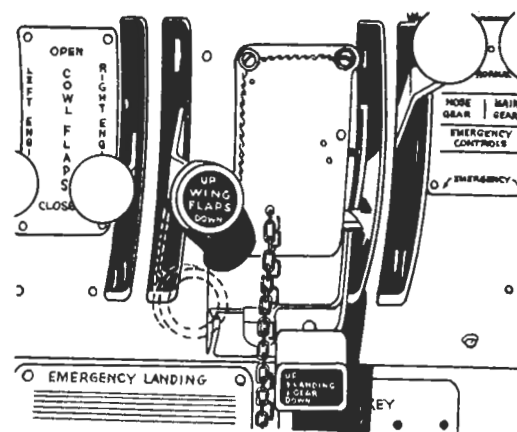

Figure 57 — Wing Flaps and Landing Gear Levers
- (1) Counteract yaw with full opposite rudder and bank about 5 degrees toward operating engine.
- (2) Feather the windmilling propeller.
- (3) Reset rudder tab.
- (4) Make sure the landing gear is up.
- (5) Retract wing flaps as soon as possible, but slowly to prevent sinking.
- (6) If possible, close cowl flaps and oil cooler shutters on the dead engine.
- (7) Do not attempt turns or banks toward the dead engine unless absolutely necessary—then only at highest speeds.
- (8) Execute a single engine landing as soon as possible.
a. Pull landing gear lever "UP" to retract gear upon advice from pilot. When indicator shows full retraction, return lever to "NEUTRAL." (See figure 57.)
b. Pull wing flap lever "UP" to retract wing flaps after obtaining 500-foot altitude. When indicator shows full retraction, return lever to "NEUTRAL." Wing flaps should be retracted before reaching 185 mph. (See figure 57.)
- (11) While in the down wind leg, raise landing gear lever from the "NEUTRAL" to "UP" position. (See figure 57.)
- (12) Reduce speed to approximately 165 mph.